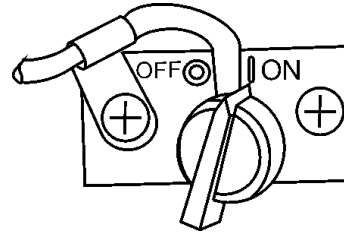

Figure 7. Engine ON/OFF Switch
2. Turn the engine **ON/OFF** switch (Figure 7) to the **"ON"** position.